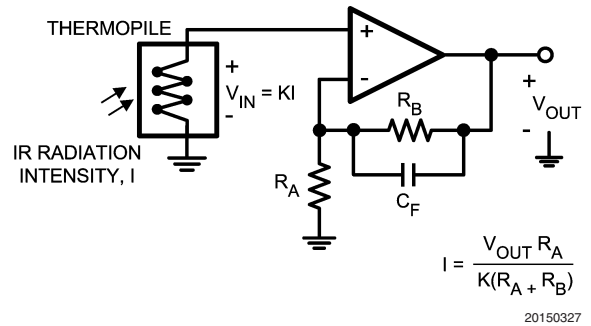

**FIGURE 7. Modified Transimpedance Amplifier**
Calculating  $C_F$  from *Equation (3)* can sometimes result in capacitor values which are less than 2 pF. This is especially the case for high speed applications. In these instances, it's often more practical to use the circuit shown in *Figure 7* in order to allow more sensible choices for  $C_F$ . The new feedback capacitor,  $C'_F$ , is  $(1 + R_B/R_A) C_F$ . This relationship holds as long as  $R_A \ll R_F$ .